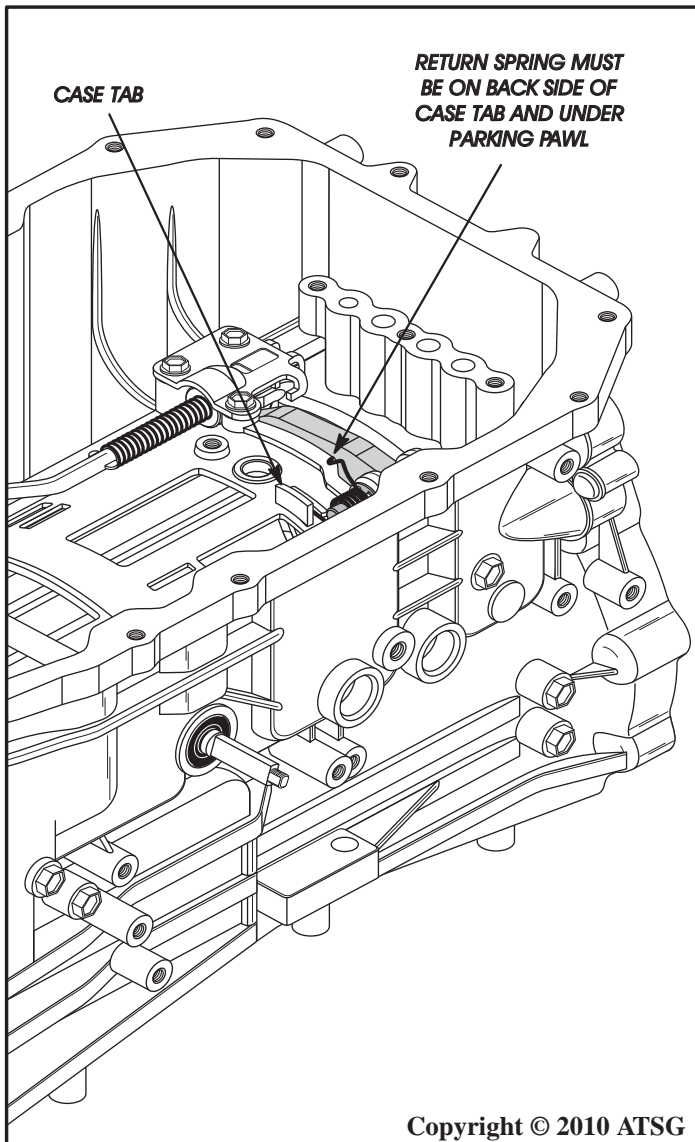

Figure 84
17. After installation, the return spring must be on back side of the case tab and underneath the parking pawl, as shown in Figure 84.